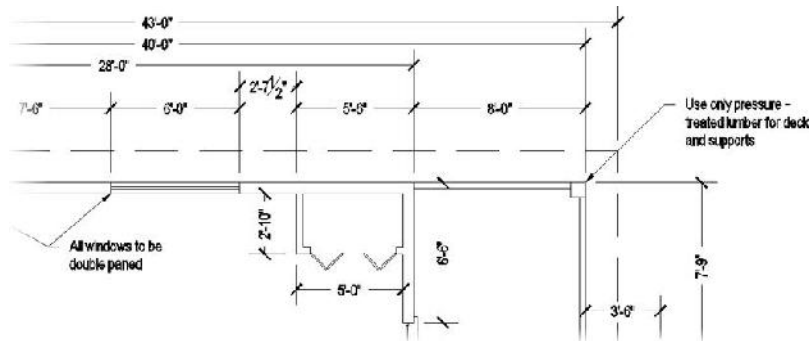

FIGURE 12.44: A modified view of the floor plan
2. Zoom and pan until your view of the floor plan is similar to Figure 12.44.